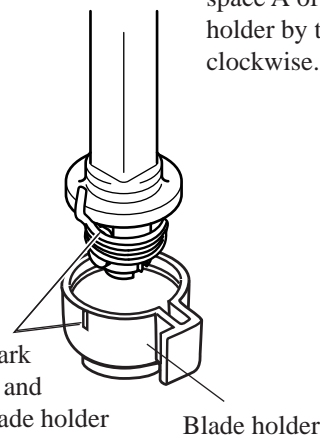
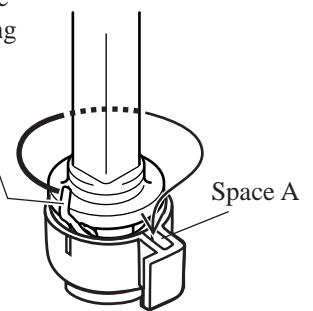

Fig. 14
Fig. 15
2. Set blade holder to rod as illustrated in Fig. 14. And bring the tail of torsion spring 15 to the space A of blade holder as illustrated in Fig. 15.